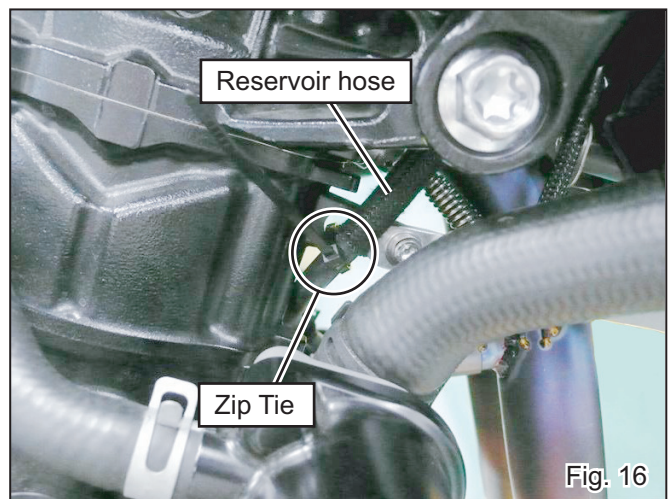

Fig. 16
- 14) Install the reservoir hose positioned near exhaust port by Zip Tie as shown in "Fig. 16", to make sure they do not interfere with exhaust pipe. (See Fig. 16)